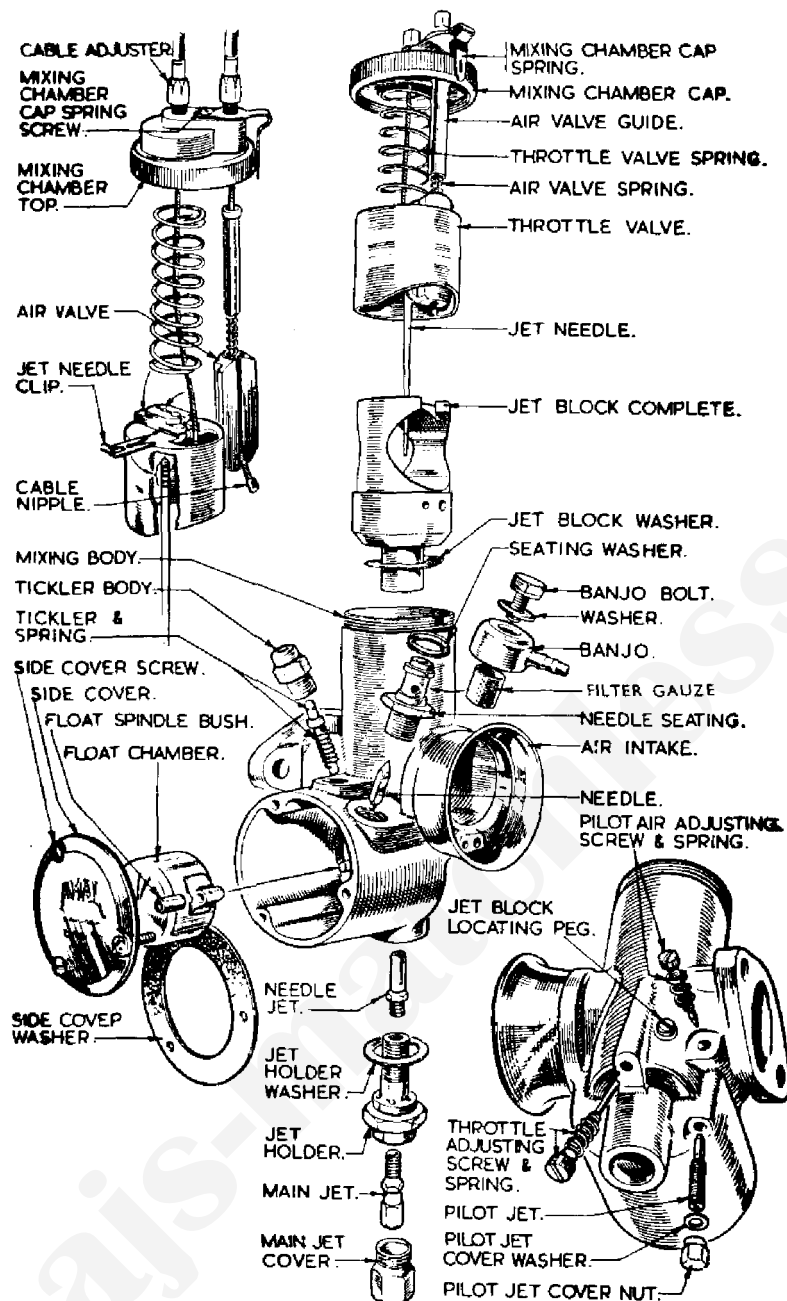

FIG. 94
The petrol supply to the engine is controlled, firstly, by the main jet and, secondly, by means of a taper needle (see Fig. 94),
The main jet controls the mixture from three-quarters to full throttle, the adjustable taper needle from three-quarters down to one-quarter throttle, the cut-away portion of the intake side of the throttle valve from one-quarter down to about one-eighth throttle, and a pilot jet, having an independently adjusted air supply, takes care of the idling from one-eighth throttle down to the almost closed position. These various stages of control must be kept in mind when any adjustment is contemplated (see Fig. 94 for location of the pilot jet air adjustment screw). The pilot jet, unlike on earlier models, is now detachable for cleaning.
**Carburetter flooding.** If the carburetter is flooding, the float spindle bush (Fig. 94) may be pinched between the float swivel and the float chamber cap.